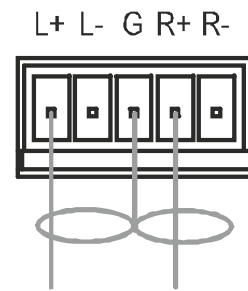

Figure 8: Unbalanced Stereo Audio Output Connection
- An unbalanced stereo audio output connection, see Figure 8